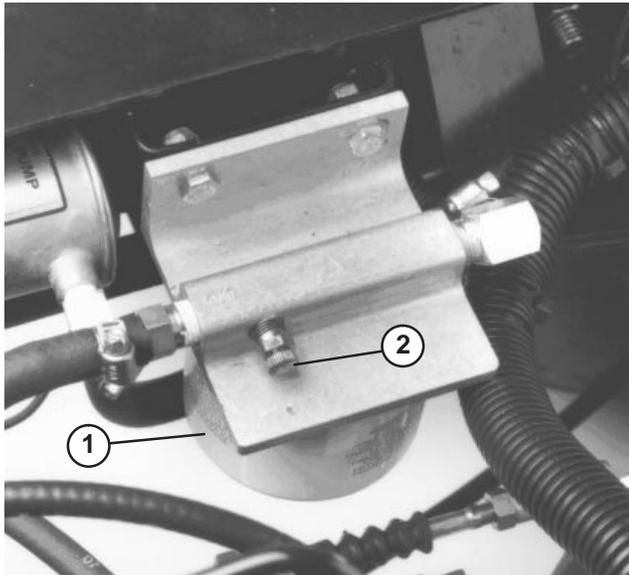

Figure 25
- Loosen air bleed screw on top of fuel filter/water separator (Fig. 25).